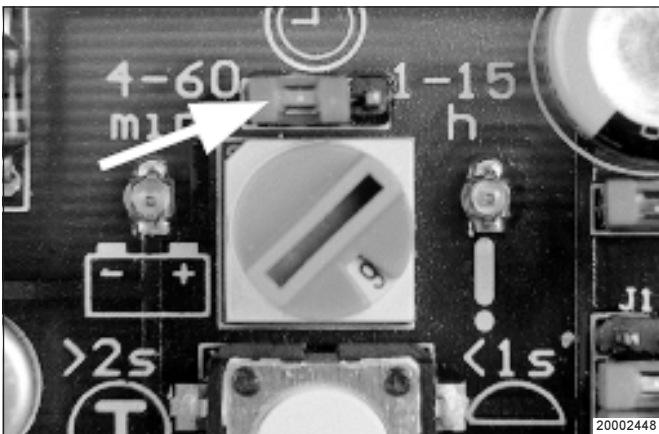

Fig. 19 - Preselection of the time ranges
- The time ranges (hours or minutes) can be modified by replugging the jumper on the printed circuit board (Fig. 19).